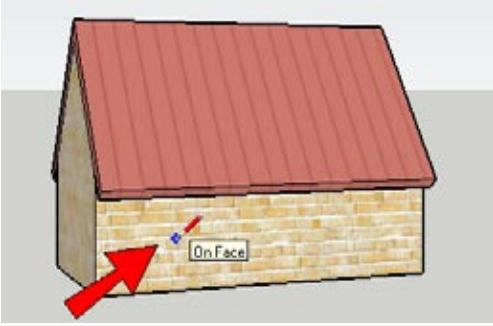

Figure 5-24
2. The front face of the dormer will lie in the same plane as the side of the house. Activate Line (don't click yet) and hover over the side face (Figure 5-24). Press and hold Shift.